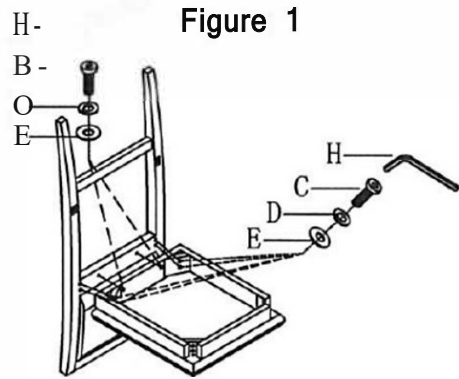

Figure 2
3. Attach one front leg to seat frame using Nut (A), Lock Washer (D), Flat Washer (E), and tighten all Bolts with Spanner (G), as shown in Figure 2
4. Attach one side stretcher to front leg and back leg using screw(F) as shown in Figure 2
5. Attach the front stretcher with "U" metal to the front leg using screw (F). as shown in Figure 2